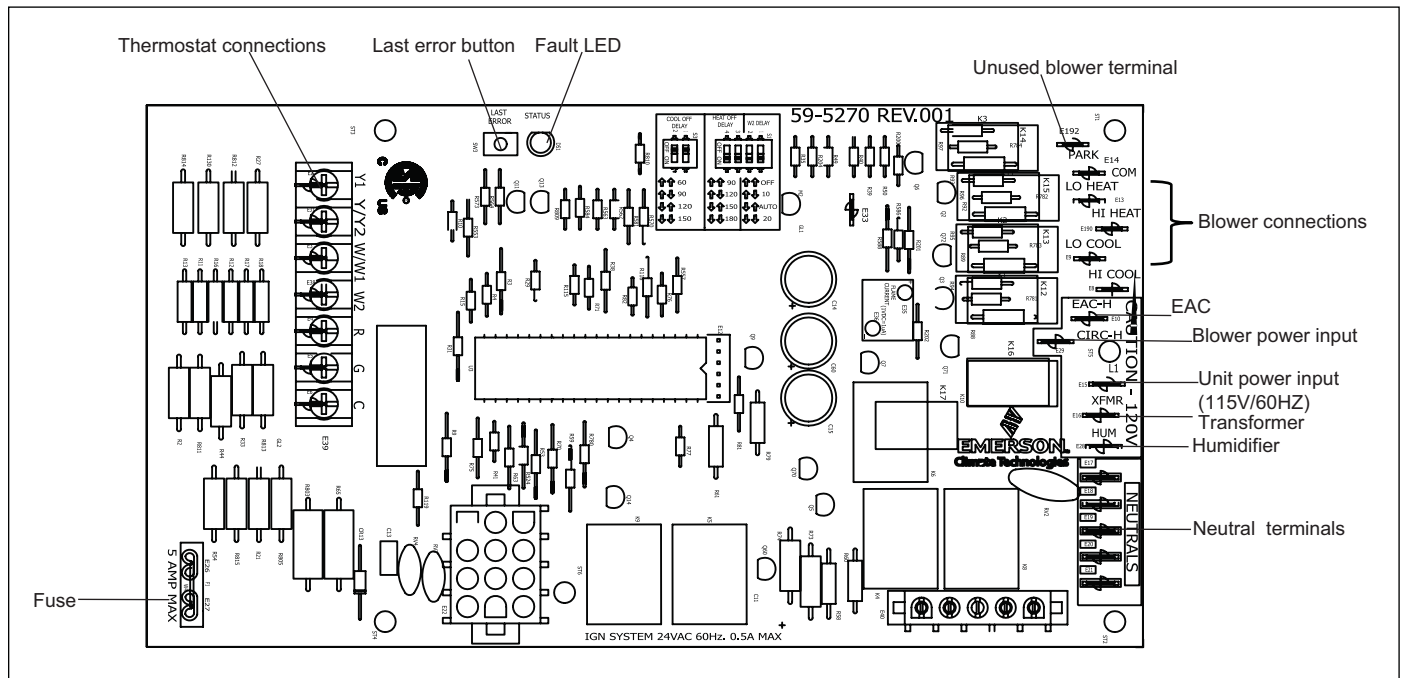
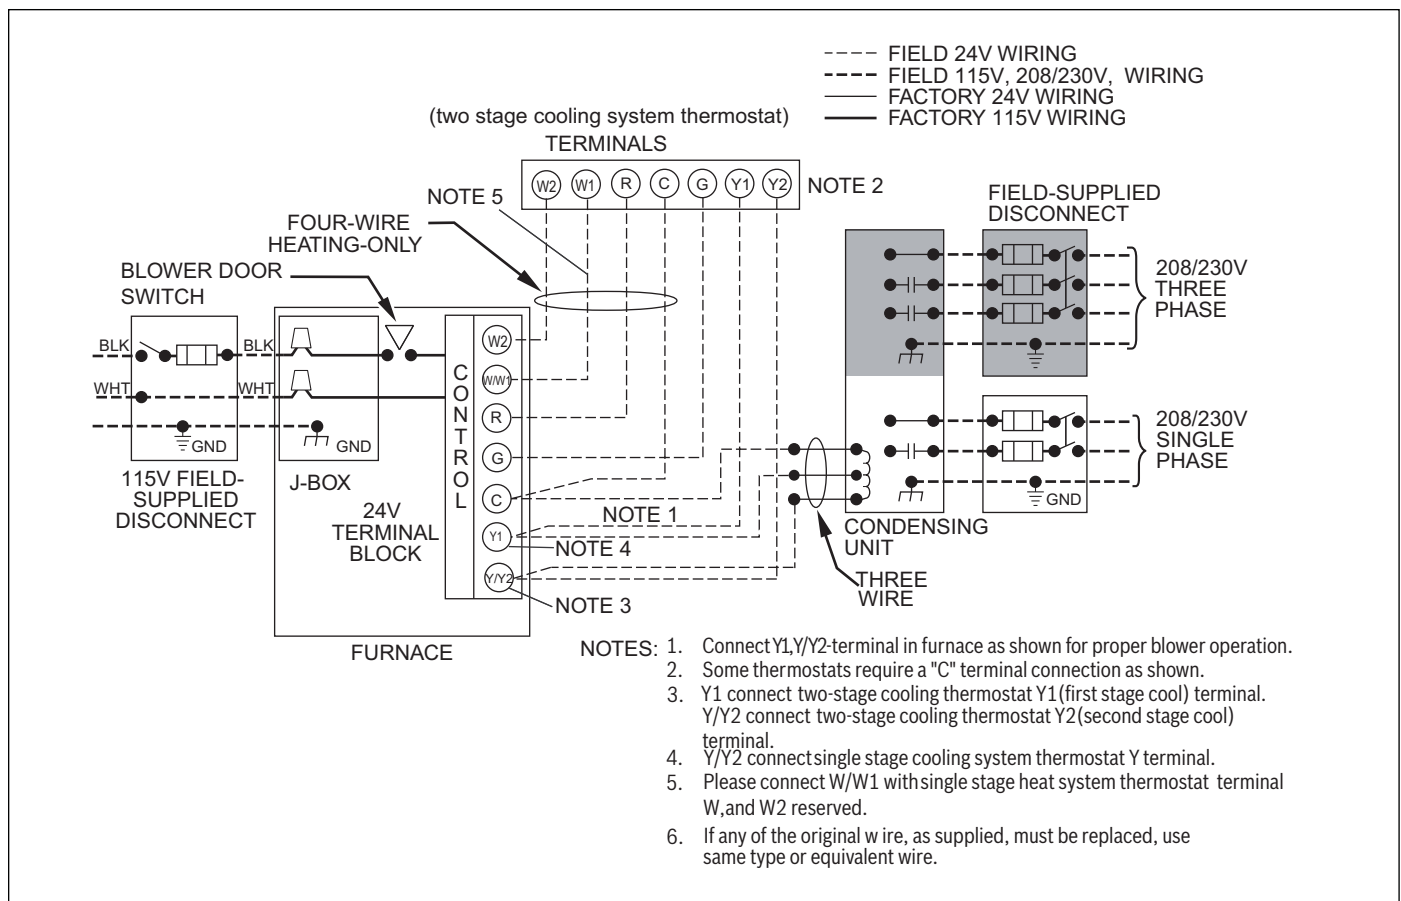

Figure 35 Furnace Control
Figure 36 Heating and Cooling Application Wiring Diagram with 2-Stage Thermostat
5. Connect line voltage leads as shown in Fig. 36.
See Fig. 35 and Fig 36.
12. Complete electrical box wiring and installation. Connect line voltage leads as shown in Fig. 36. Use best practices (NEC in U.S.) for wire bushings, strain relief, etc.
Make field 24V connections at the 24V terminal strip (See Fig. 35.). Connect terminal Y as shown in Fig. 36 for proper cooling operation. Use only 18 AWG, color-coded, copper thermostat wire.
For connection to an Electronic Air Cleaner (if needed), use ¼-inch female quick connect terminals to engage with the two ¼-inch male quick connect terminals on the control board marked EAC-H and one of NEUTRALS. The terminals are rated for 115 VAC, 1.0 amps maximum and are energized when blower motor is in operation (see Figure 35).
Connect an accessory humidifier using the ¼-inch male quick connect terminals marked HUM and one of NEUTRALS, respectively, on the control board. The HUM is energized when gas valve relay is energized. The terminals are rated for 115VAC, 1.0 amps maximum (See Figure 35).
1. Maintain 115V wiring and ground. Improper polarity will result in rapid flashing LED and no furnace operation (See Fig. 36).
2. Make thermostat wire connections at the 24-V terminal block on the furnace control. Failure to make proper connections will result in improper operation (See Fig. 36).
Read and follow the wiring diagram (Fig. 36) very carefully.